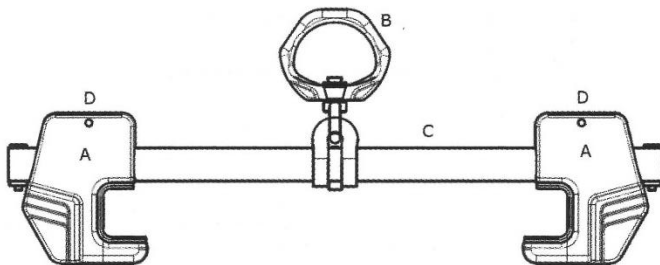

Figure 1: Key components of beam anchor.
4.1 KEY COMPONENTS: Refer to Figure 1 for identification of key components of **Safety Direct** beam anchor.